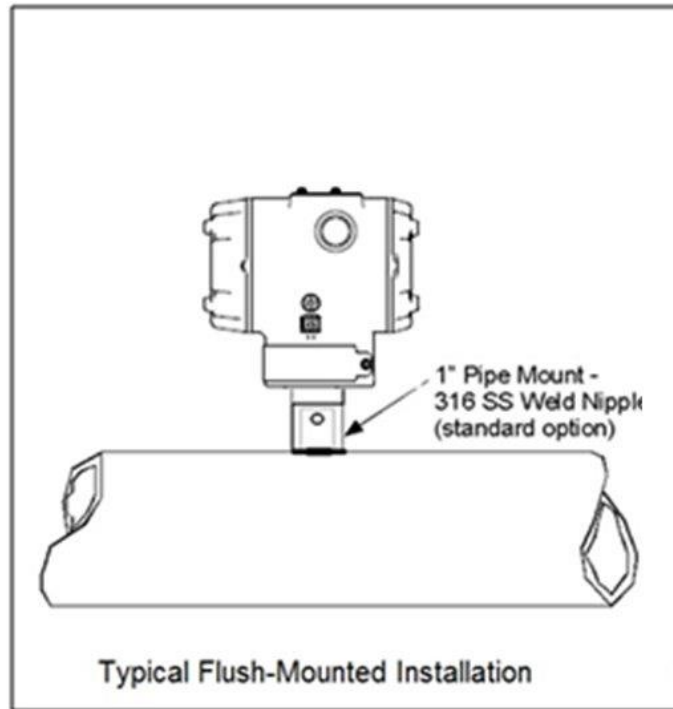

Figure 10 – Typical Flush and Flange Mounted Installations
1. Refer to Figure 10 for a representative flush-mounted transmitter installation. Cut a hole for a one (1) inch standard pipe in the tank or pipe at the transmitter mounting site.